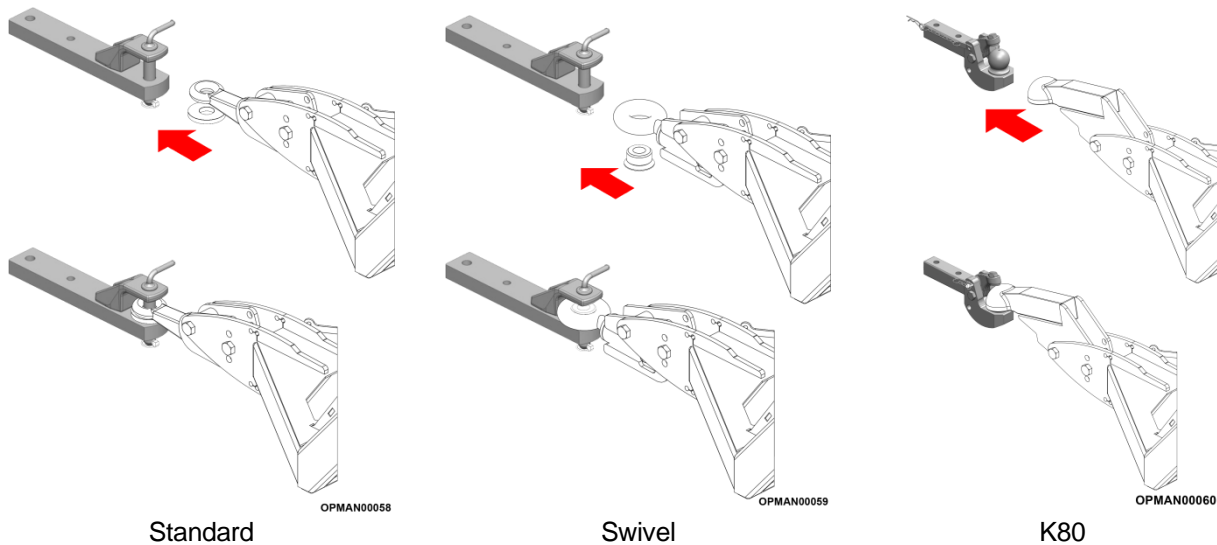

Figure 4.7 – Multicut Towing Eye Options
4.4.2.6 If the machine is fitted with either a standard or swivel towing eye, wear pads should be placed between the towing eye and the clevis hitch; see Figure 4.7.